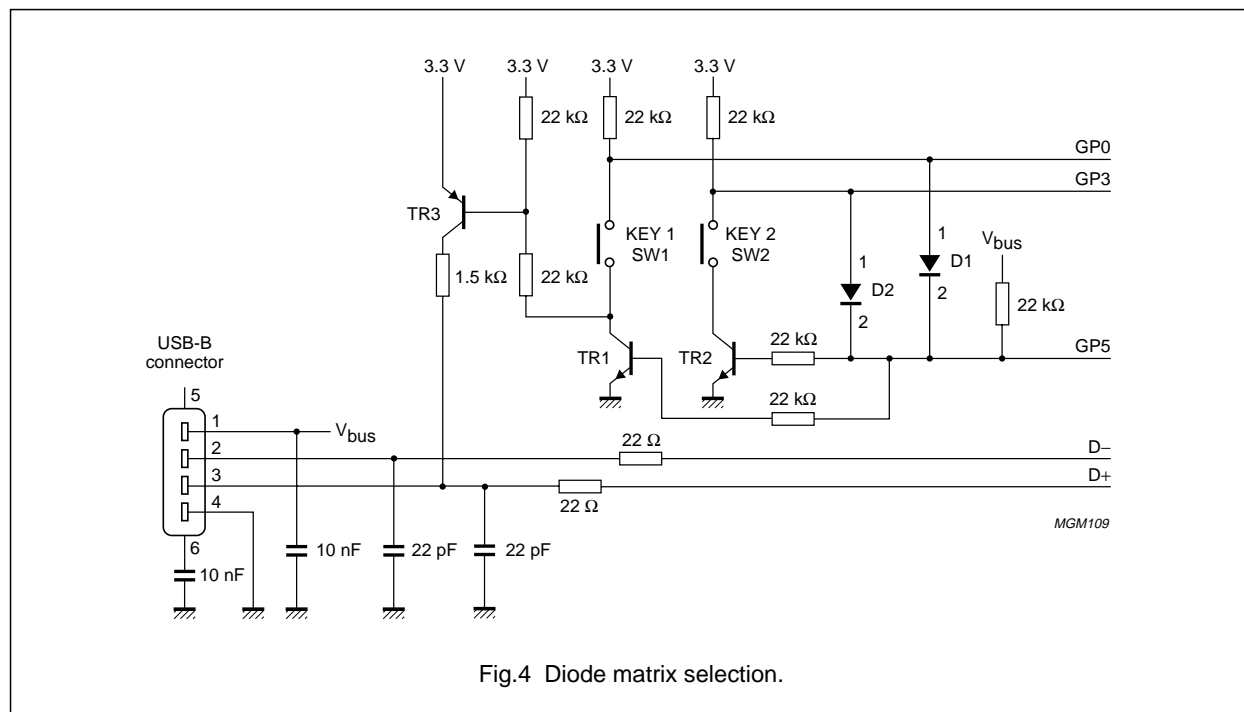

Fig.4 Diode matrix selection.
The UDA1331H uses a configuration map to hold a number of specific configurable data on hardware, product, component and USB configuration level. At start-up without EEPROM, the UDA1331H will scan the logical levels of GP3 and GP0. With these two pins it is possible to select one of the four possible (vendor specific) configuration maps which are held in the external (E)PROM. This selection can be achieved via a diode matrix (see Fig.4).